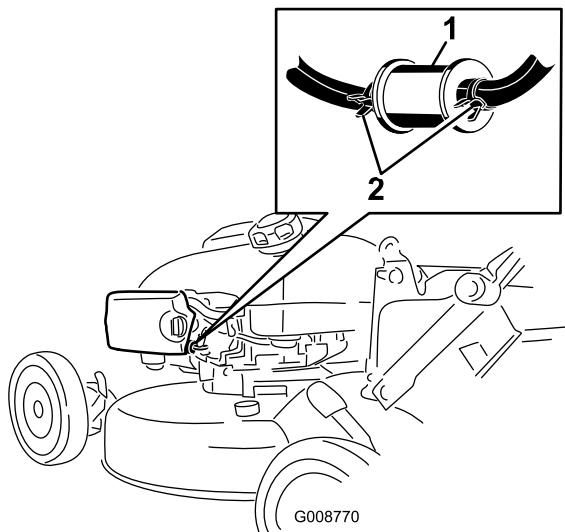

Figure 36
- Pinch the clamps and remove the old fuel filter from the fuel line (Figure 36).
- Install a new fuel filter, and secure it with the clamps (Figure 36).